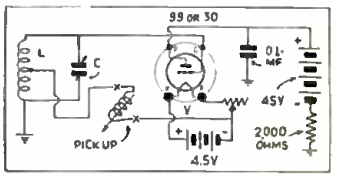

Fig. 7. Phono oscillator.
**PHONO OSCILLATOR.** This simple unit, the diagram of which is shown in Fig. 7, may be used to reproduce recorded material through any radio receiver, thus utilizing the full amplification of the receiver. It does not actually have to be attached to the set, but can be placed up to 25 ft. or so away from the receiver and the signal picked up over the regular antenna. Coil L and condenser C are standard units that tune within the wavelength range of the set. (If the unit should cause any interference to other set owners—in the same building, for instance—it must be thoroughly shielded, and coupled to the set via a shielded line.)